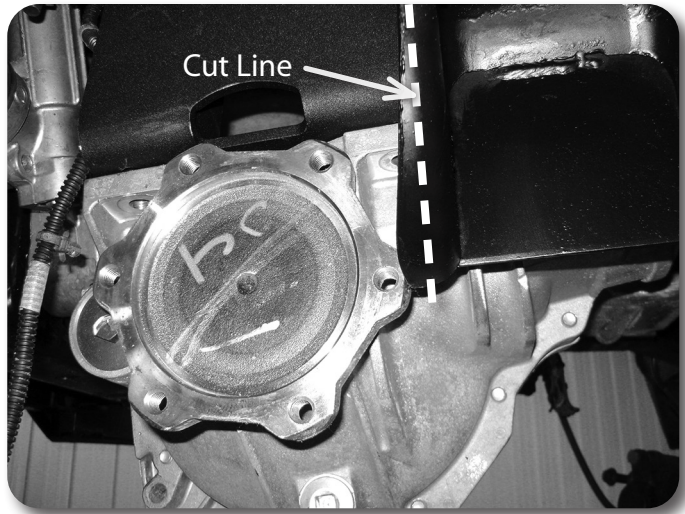

Figure 26 - Shown with differential to show clearance
38. The rear control arm pocket flanges need to be trimmed for CV shaft clearance. Cut the flange so it is approximately 3/8" from the inside face of the control arm pocket. Verify there is enough clearance once the CV spacers are installed. **Figure 26 & 27**